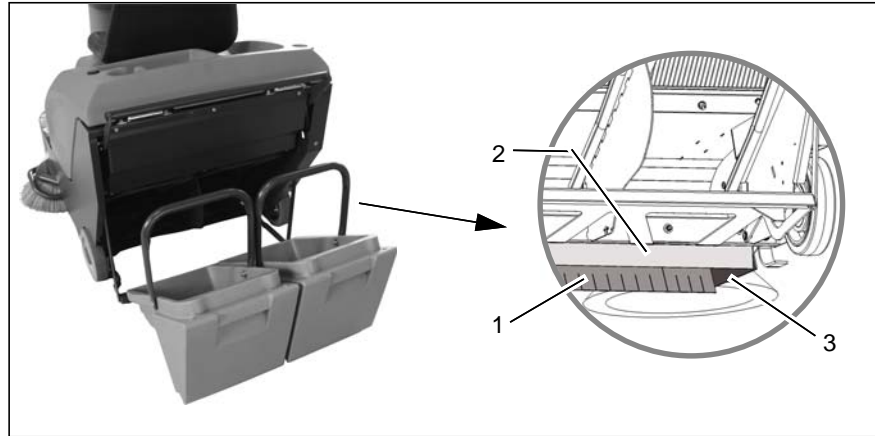

Fig. 22
2. Remove the screws connecting the sealing strips (Fig. 22/1 to 3).